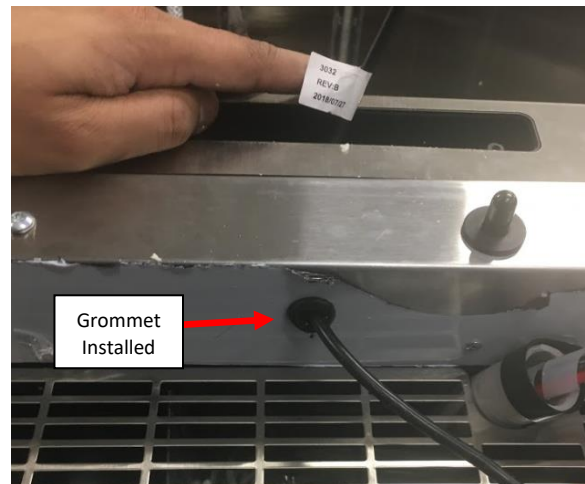

Figure 105b: Grommet installed into access hole.
- iv. Push the Grommet into the bottom side of the Access Hole to insert it. See **Figure 105b**.